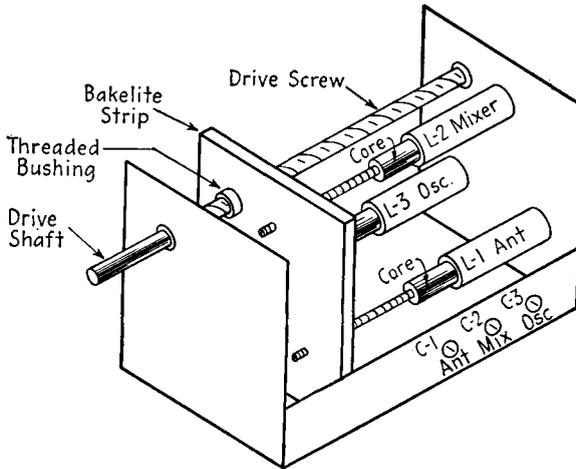

FIG. 15-8. A permeability tuner of the screw-drive type.
**Screw-drive permeability tuners.** Another type of permeability tuner uses a screw for driving the ganged tuning slugs. Figure 15-8 shows a tuner of this type. The proportions have been altered to permit viewing the operation of the unit.
5. Tune the receiver to a quiet point near the high-frequency end of the tuning range, adjust the signal generator to feed the same frequency as that shown on the receiver dial scale, and align the oscillator high-frequency trimmer for maximum output. This trimmer is labeled C-3 in Figs. 15-8, 15-9, and 15-10.